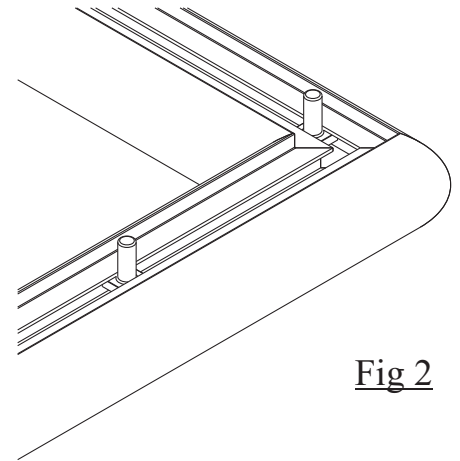

Fig 2
2 Insert 6 Square Headed Bolts (10) in the channel of the base Crossbar/Upright Assembly as shown in Fig 2, and fit 4 Square Headed Bolts in the other Crossbar/Upright Assembly